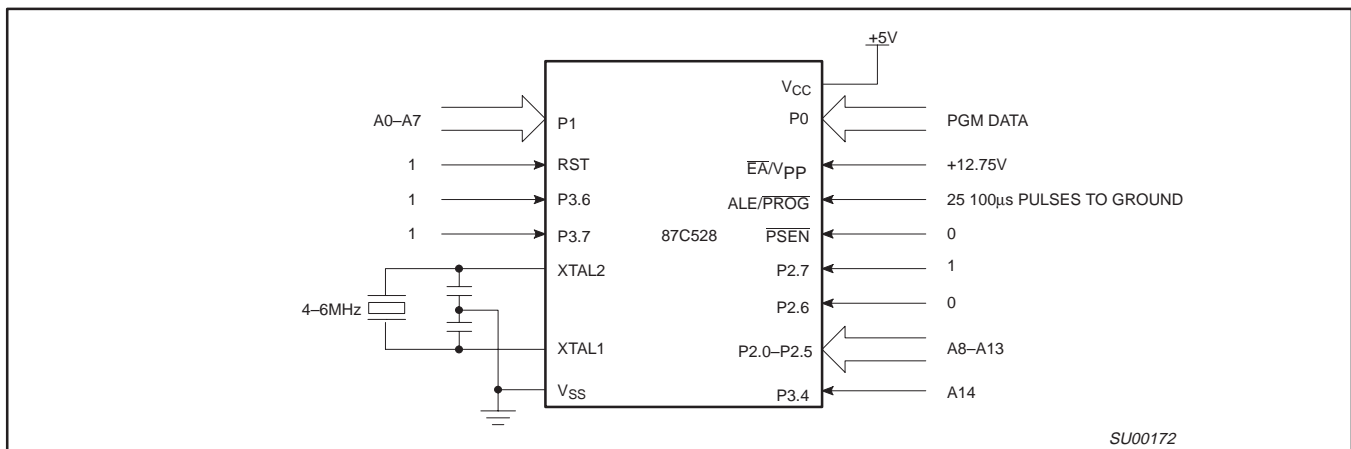
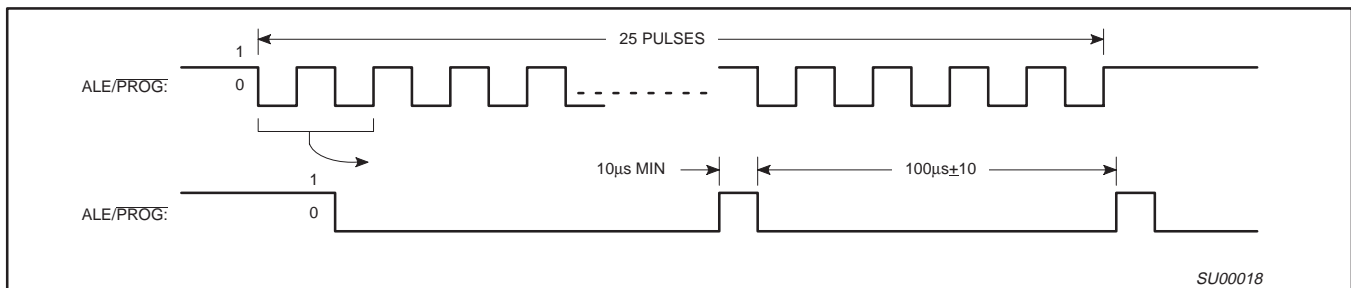
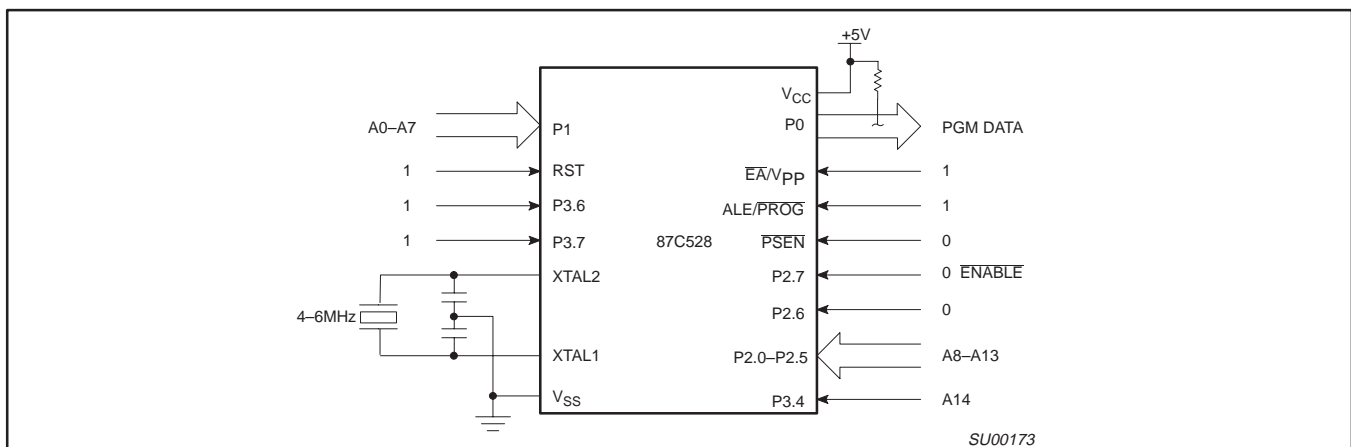

Figure 14. Programming Configuration
Figure 15. PROG Waveform
Figure 16. Program Verification
Table 6 shows the logic levels for reading the signature byte, and for programming the program memory, the encryption table, and the lock bits. The circuit configuration and waveforms for quick-pulse programming are shown in Figures 14 and 15. Figure 16 shows the circuit configuration for normal program memory verification.
The setup for microcontroller quick-pulse programming is shown in Figure 14. Note that the 87C528 is running with a 4 to 6MHz oscillator. The reason the oscillator needs to be running is that the device is executing internal address and program data transfers.
The address of the EPROM location to be programmed is applied to ports 1, 2 and 3, as shown in Figure 14. The code byte to be programmed into that location is applied to port 0. RST, PSEN and pins of ports 2 and 3 specified in Table 6 are held at the 'Program Code Data' levels indicated in Table 6. The ALE/PROG is pulsed low 25 times as shown in Figure 15.
If lock bit 2 has not been programmed, the on-chip program memory can be read out for program verification. The address of the program memory locations to be read is applied to ports 1, 2 and 3 as shown in Figure 16. The other pins are held at the 'Verify Code Data' levels indicated in Table 6. The contents of the address location will be emitted on port 0. External pull ups are required on port 0 for this operation.
* FOR PROGRAMMING VERIFICATION SEE FIGURE 14.
FOR VERIFICATION CONDITIONS SEE FIGURE 16.